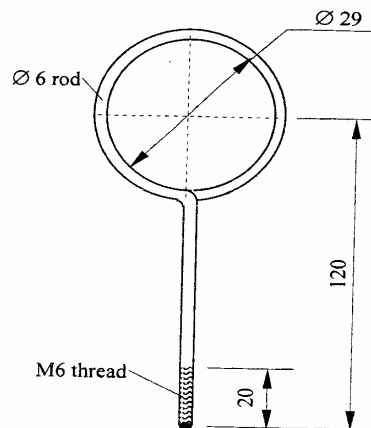

Figure 5
- (b) Figure 5 shows a chain support eye to be made from a 6 mm silver steel rod.